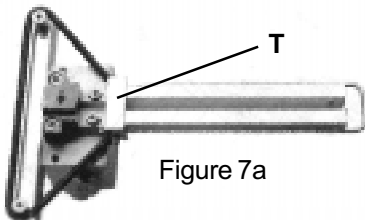

Figure 7a
3. Pull the spring loaded **Follower (C)** (Figure 5) to the rear and insert a stack of 3/8" (10mm) **Nails** in the nail path with the glue side up and the bend toward the rear. Set the large **Pusher (O)** for 3/8", 1/2" and 5/8" (10mm, 12mm and 15mm) **nails** over the **Nail Block (T)**, (Figure 7a), with the "V" notch against the **Nails** and release the **Follower (C)**. The smaller **Pusher (P)** is used for 3/16" (4mm) and 1/4" (7mm) **Nails**.